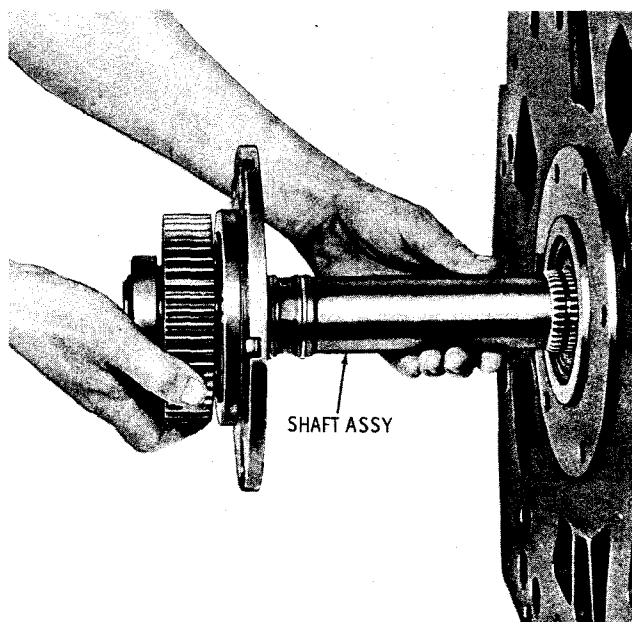

Fig. 5-24. Removing converter output shaft assembly
(21) Remove five self-locking bolts that retain the converter output shaft assembly. Remove the shaft assembly (fig. 5-24). Refer to paragraph 6-13 for rebuild procedures.